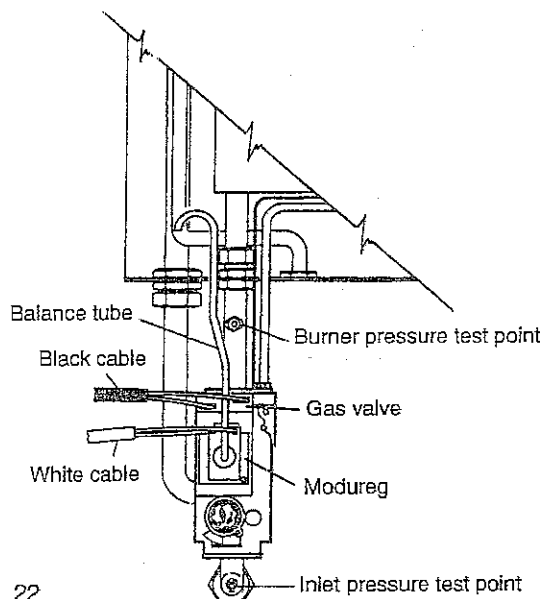

Fig. 22
- Loosen the screw in the burner pressure test point (fig. 22) and attach a gauge.
- e. Disconnect one of the wires from the «Modureg» (fig. 22), this will reduce the burner to minimum which should read 2.5 mbar $\pm$ 0.5 mbar. If the burner pressure is not as stated check the inlet working pressure (fig 22) which should be minimum 20 mbar. If that is correct, consult Ferrol. No attempt should be made to alter D.H.W. burner pressure.